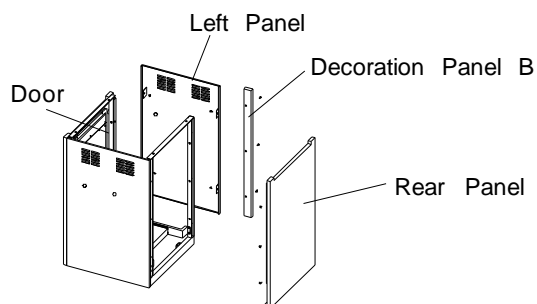

Fig. 2
- ☐ Remove Island Left, Rear and Decoration Panels B. See **Fig. 2**.